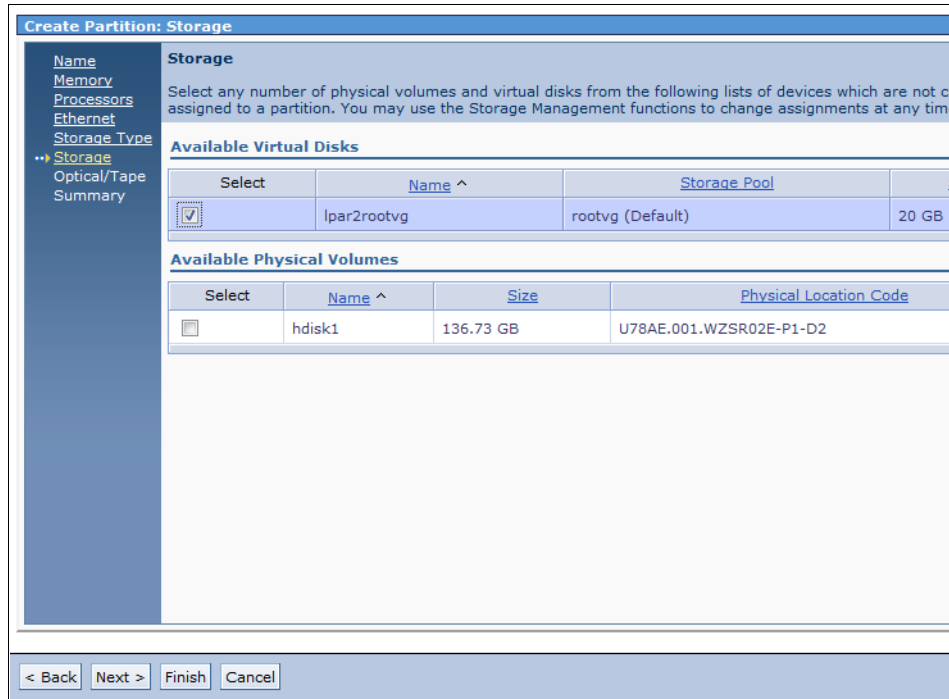

Figure 8-70 IBM Create Partition Storage window
8. As shown in Figure 8-70, the Storage window that is shown lists all of the available virtual disks and physical volumes (SAN LUNs and physical drives). Complete the following steps on the Storage window: